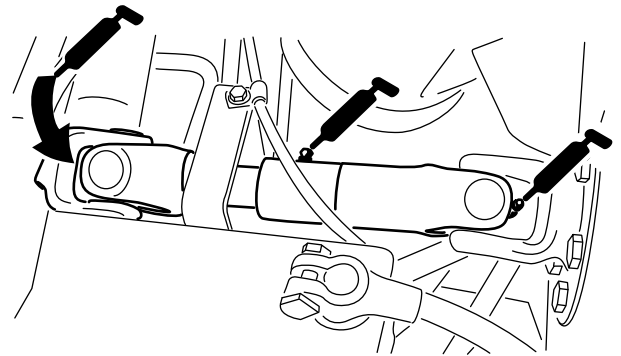

Figure 60
- Pump driveshaft U-joint (3)—Figure 60